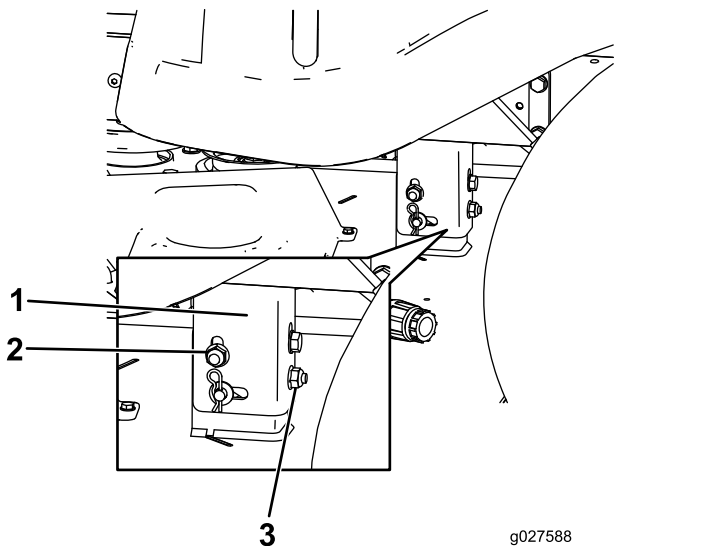

Figure 55
8. Raise or lower the left side of the mower deck by rotating the rear nut (Figure 55).
Note: Rotate the rear nut clockwise to raise the mower deck; rotate the rear nut counter-clockwise to lower the mower deck. (Figure 55).